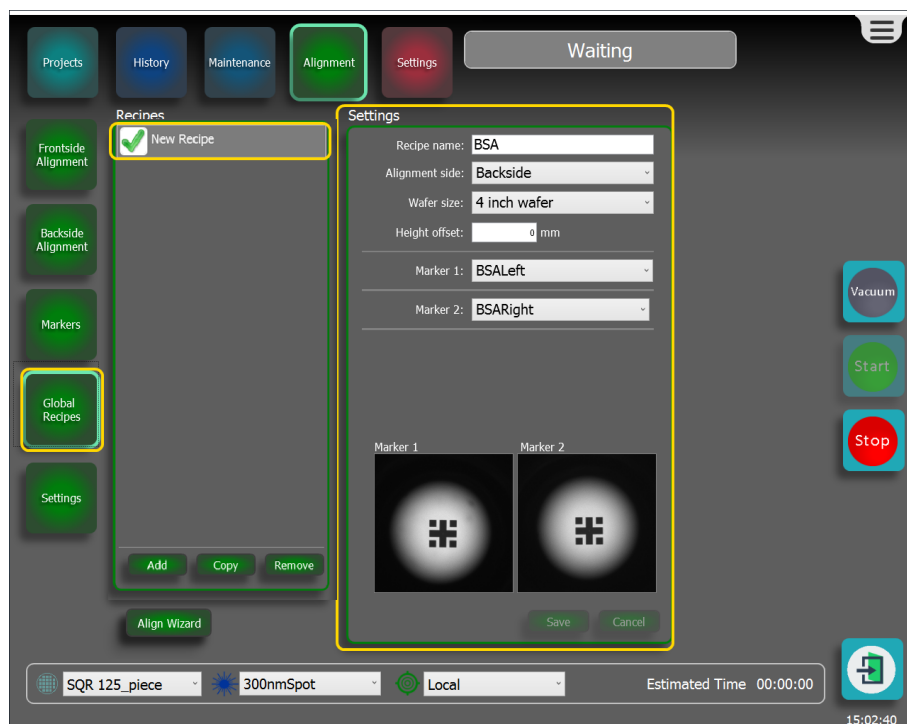

Figure 3-97 Making an alignment recipe
1. Select **Alignment**; see **Figure 3-97 on the next page**.
1. Go to the **Settings** window to set the recipe values, see **Figure 3-97** above.